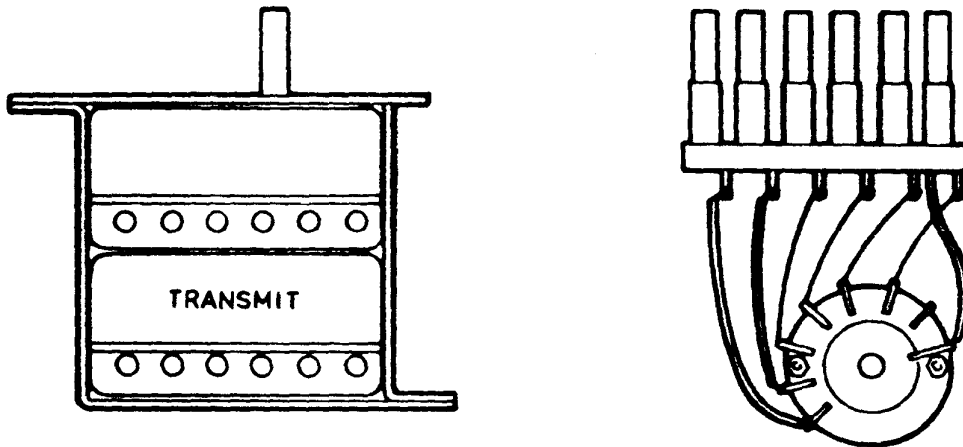

Figure 3-13 Transmit Channel Crystal Assy Connections
- (1) Unsolder transmit channel crystal assembly leads from the channel select switch SW1 rear wafer.
- (2) Remove transmit channel crystal assembly.
- (3) Fit new transmit channel crystal assy. (item A) into channel crystal assembly.
- (4) Solder transmit channel crystal assy. leads to switch SW1 rear wafer as shown in figure 3-13.